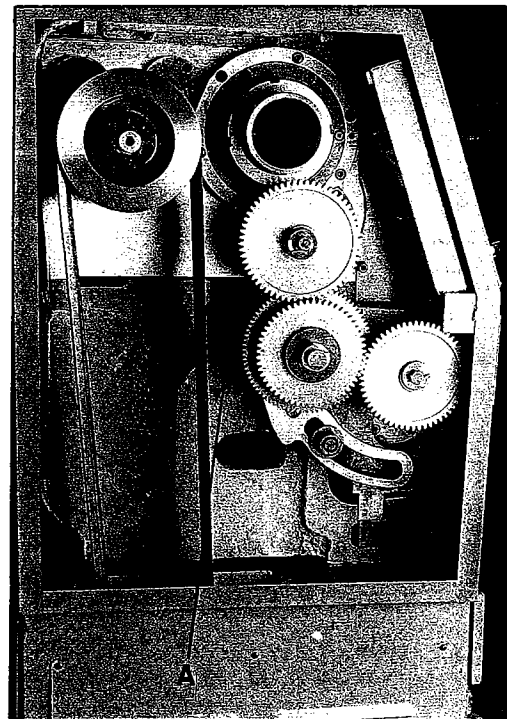

Fig. 29
- Turn adjusting screw in desired direction (A, Fig. 29). Reassemble lathe and make another cut. Keep adjusting screw nut after each cut until the bar stock measurements are the same. Tighten all headstock screws.